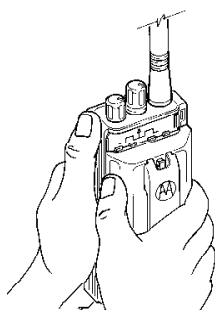

Figure 2.
4. To install a fresh battery, align the belt clip end of the battery with the control rails on the radio. (See Figure 2.) Slide the battery